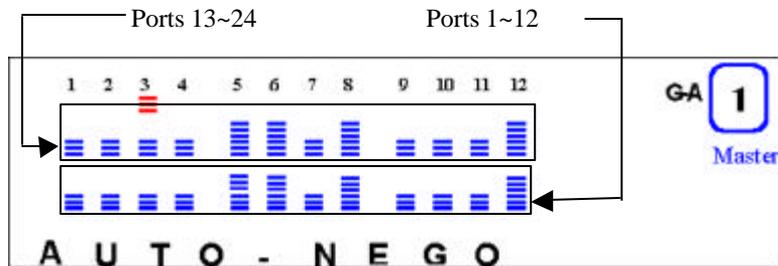

Figure 4.18 Auto Negotiate Ports
- 2) Press <Enter>. The first of the configuration items for all 24 ports is indicated in the Message Zone. Press <Next> to scroll through all the configuration options. Figure 4.18, illustrates the ports that are set to Auto Negotiate enable, indicated by the columns that have 6 gauge bars, specifically ports 5, 6, 8, 12, 17, 18, 19, 24. Columns that have only 3 gauge bars indicate the ports that are not set to the configuration displayed in the Message Zone. To change the configuration scroll to the desired setting and press and hold the ENTER key. The new setting will display 6 gauge bars for all ports.